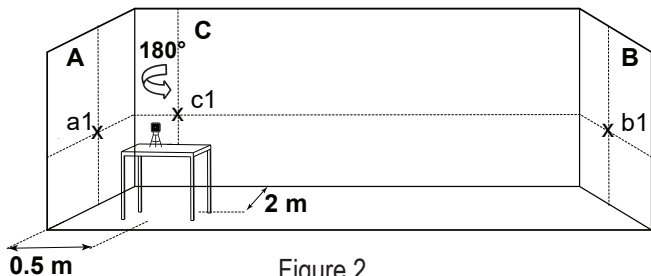

Figure 2
7) Mark on wall **B** the intersection point as **b1**(see figure 2).